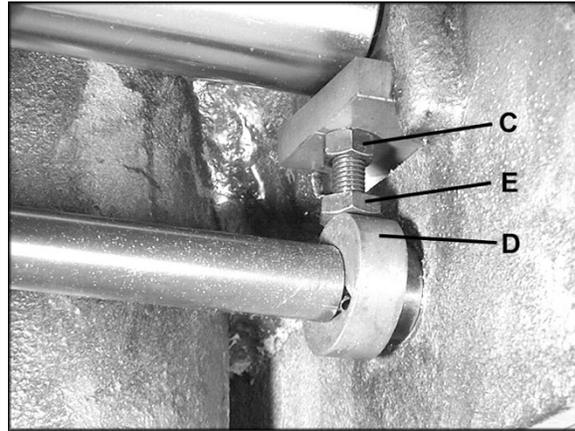

Figure 17
5. If the gauge reading is greater or less than zero, reach beneath the table with a wrench and loosen the hex nut (C, Figure 17) which is above the cam (D, Figure 17) near the end of the roller that needs adjusting. Rotate the hex cap screw (E, Figure 17) until the gauge reads zero.
7. Re-tighten the hex nuts (C, Figure 17) on both ends of the table roller.